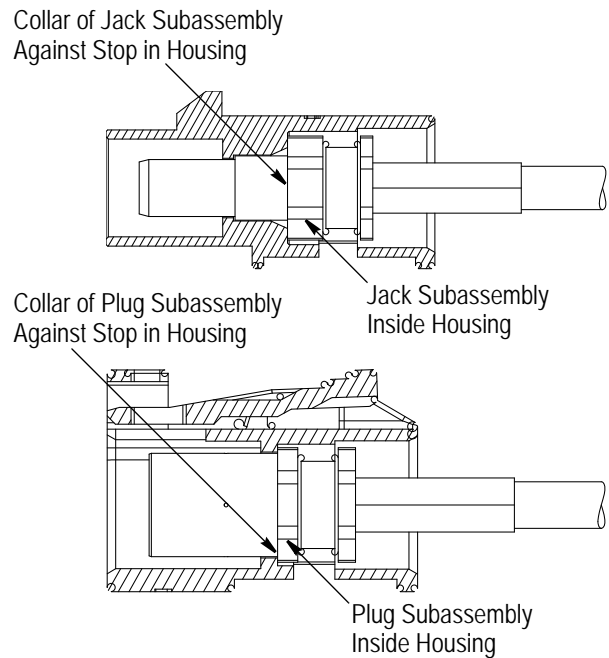

Figure 7
7. Slide the subassembly into the housing until the collar bottoms on the stop. Refer to Figure 7.